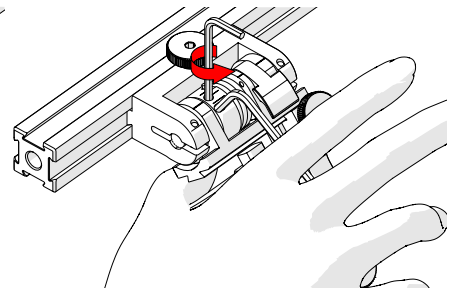

Fig. 49 - Press 3 mm hex wrench down
5. Lightly press the long arm of the 3 mm hex wrench down. Using the 2 mm hex wrench, loosen the force adjustment screw but do not remove it (Fig. 49).